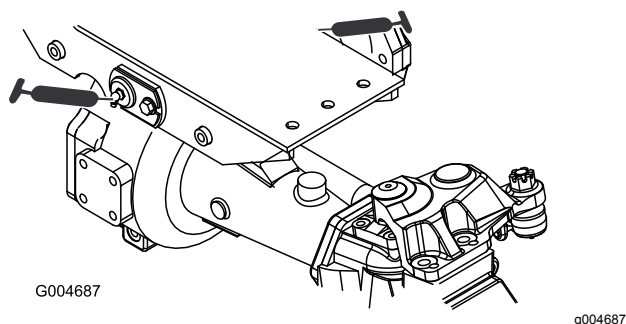

Figure 76
- 2 front and rear-axle-pivot bushings (Figure 76)